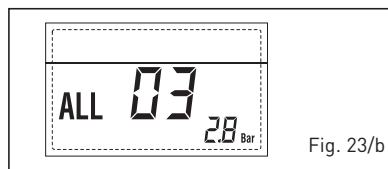

Fig. 23/b
- HEATING FLOW SENSOR ERRORS ALARM 05 (fig. 23/d)